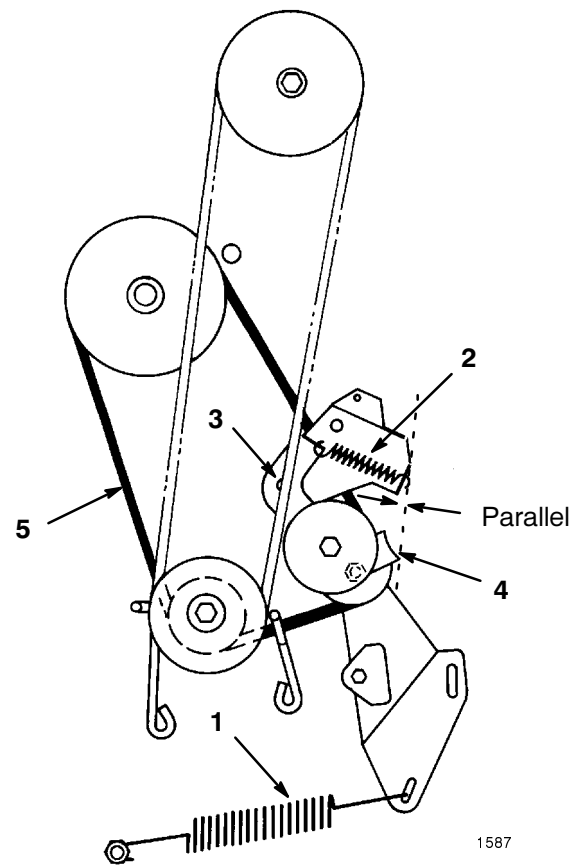

Figure 29
7. Unhook the large traction spring from the mounting screw (Fig. 29). Use caution when removing the spring as it is heavily tensioned.
8. Unhook the idler spring from the idler bracket (Fig. 29).
9. Remove the locknut and washer securing the idler bracket to the frame and remove the bracket (Fig. 29).
10. Loosen the locknut on the pulley until the belt guide can be removed (Fig. 29). Remove the belt from all of the pulleys.
Note: When installing the belt guide to the idler pulley, make sure the edge of the belt guide is parallel to the frame as shown in Figure 29.